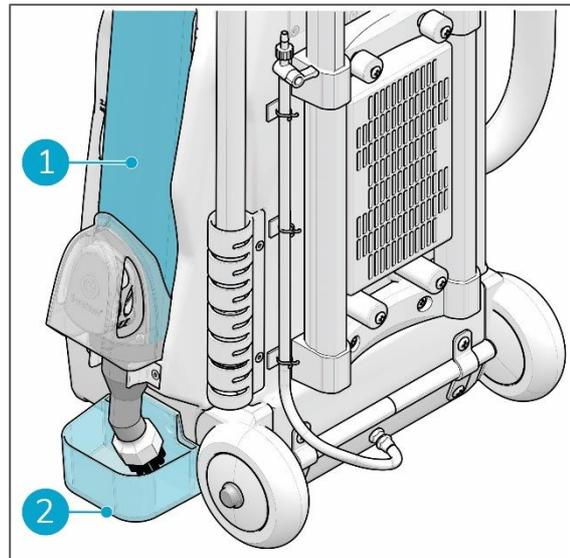

Figure 5
The functional part of the i-gum[®] consists of a steam lance and brush. The steam lance is insulated, however the grey part (fig 5, pos 1) should not be touched. The temperature stays well below 60°C.
It is recommended to keep the steam lance (Figure 5, pos 1) stored in its holder when moving to the job site. The drip tray (Figure 5, pos 2) is only used for rinsing the machine, see 6.5.2).